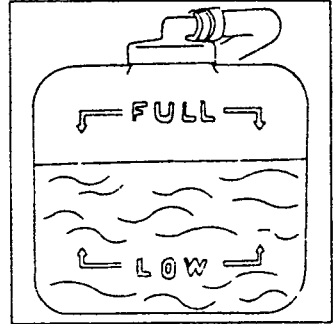

Fig. 3.2. — View of the cooling system expansion chamber. The coolant must be within the two marks when the engine is cold.
- Fill the expansion chamber to the "Full" mark (Fig. 3.2). When the engine is cold, the coolant level on the expansion tank must be between the "Full" and the "Low" mark.